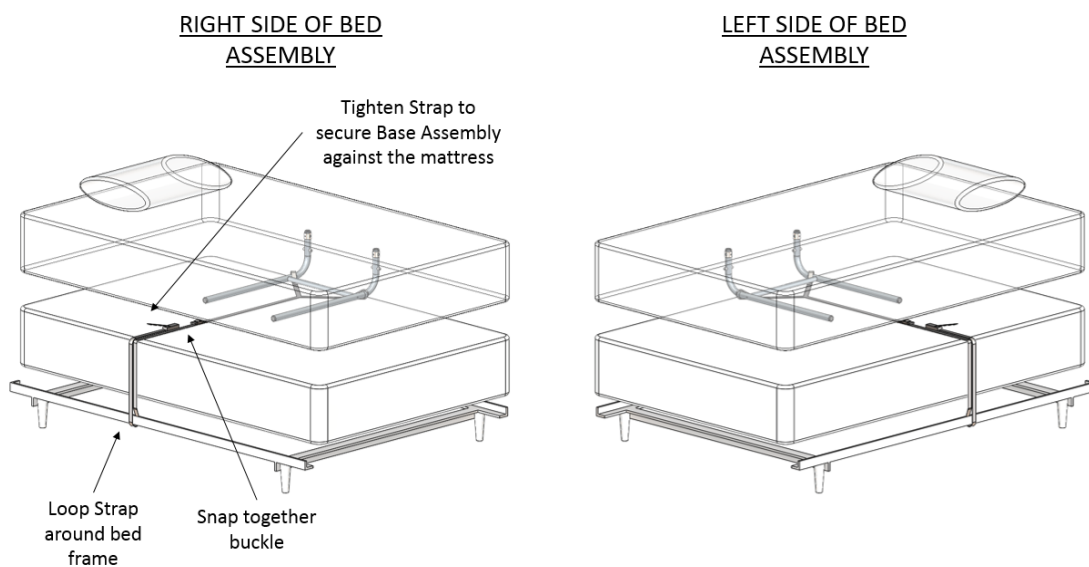

FIGURE 5
- Secure the SAFETY STRAP to the bed frame, as shown in Figure 5. Unbuckle strap and loop strap around bed frame and re-buckle. Tighten strap to secure Base Assembly against the mattress.